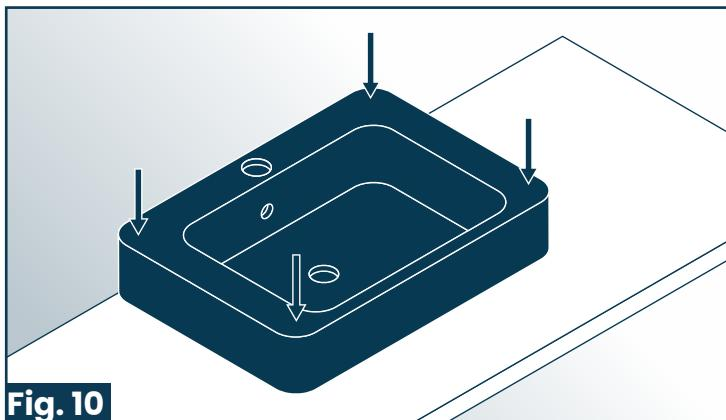

Fig. 10
6. Check for a perfect fit. (Fig. 10)